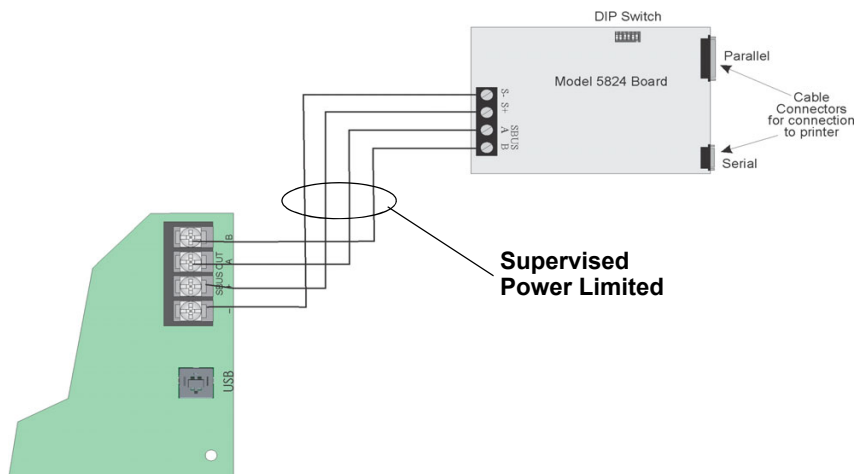

Figure 4.31 5824 Connection to the Panel
2. Connect the 5824 to the panel as shown in Figure 4.31.